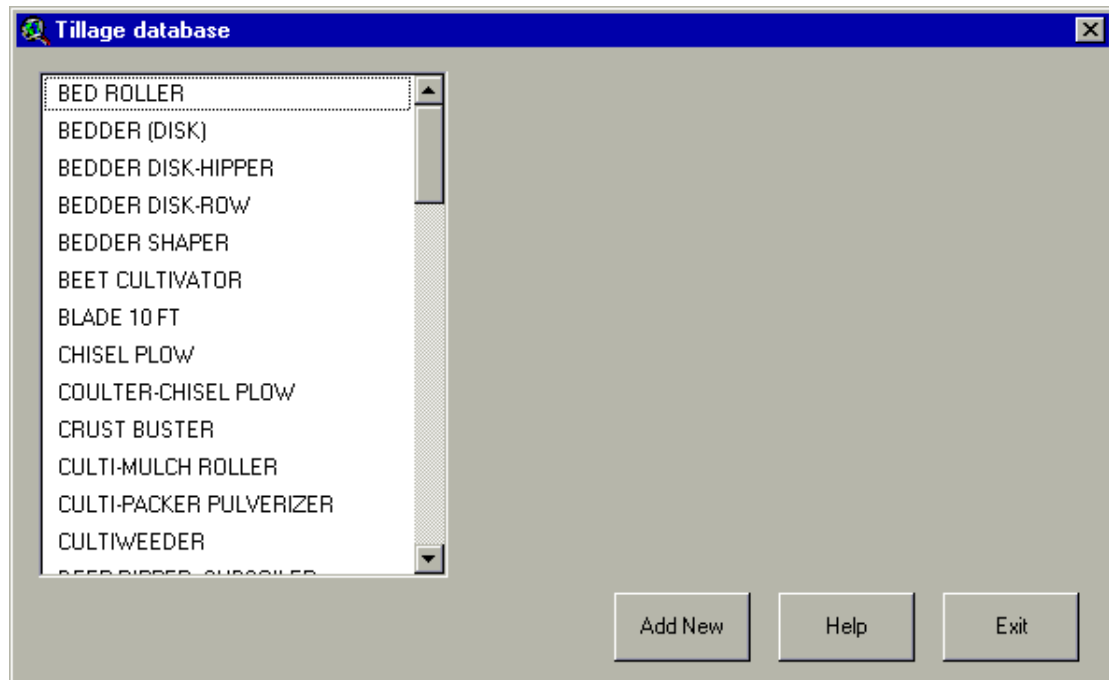

Figure 14.61
2. The Tillage database dialog box will be displayed (Figure 14.61).